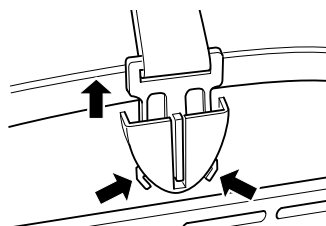

Fig. 16
2. Release the shoulder strap clasp by pressing together the ends of the clasp and removing it from the holder (Fig. 16).